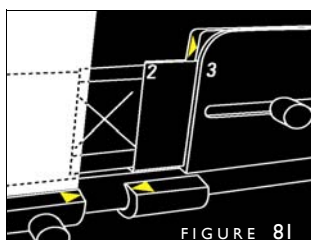

FIGURE 81
6. To make your front spine edge score, slide your cover over so its right edge lines up with **the point** of the left yellow arrow on the back of the Book Thickness Rings (Figure 81). Push the Lever to the left to score.